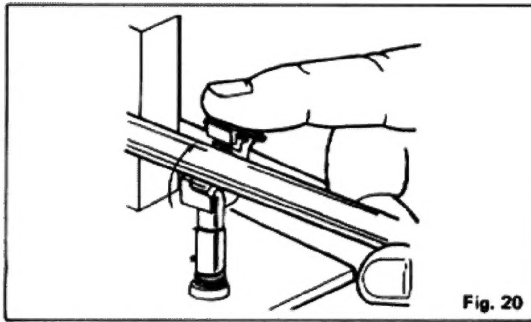

Fig. 20
1. Put a disc on the platter, release the rest clamp. (Fig. 20)